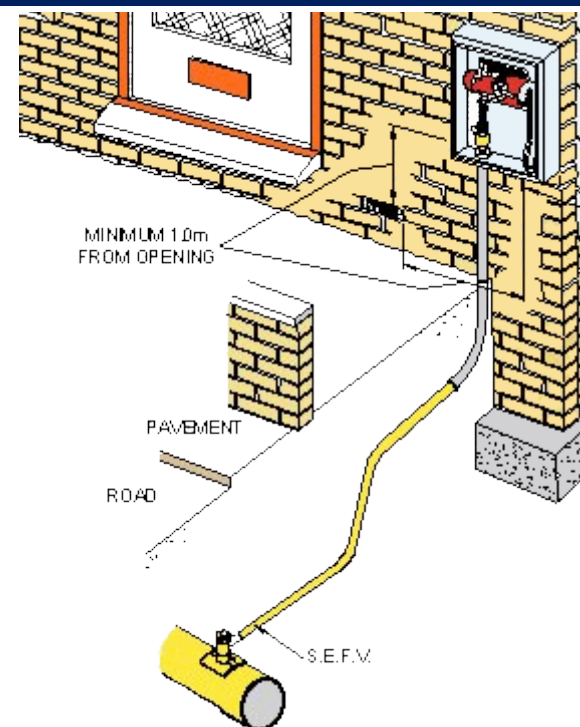

Figure 71 - Example of S.E.F.V on an MP service
*Note: This is to protect the entire length of the MP service. (Figure 71).*